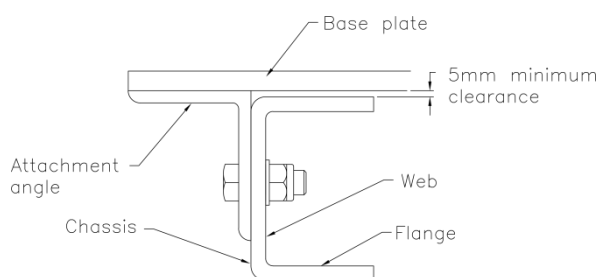

Figure 10: Fifth wheelbase plate and/or sub-frame, clearance to chassis flange
- Allow at least 5 mm clearance between the base plate or sub-frame and chassis flange (see Figure 10) or as defined in the chassis manufacturer's recommendations.